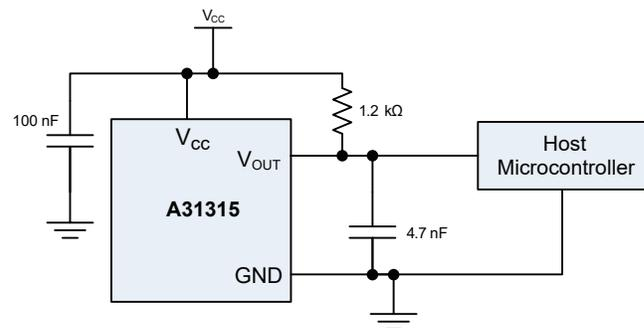

Figure 8: A31315 Typical Application Circuit for Digital Output Modes (SENT/PWM)
Power and Signal Integrity: Proper electrical integration is critical for sensor performance. Allegro position sensors are designed to operate at common supply voltages (V_{CC}), such as regulated 3.3 V and 5 V, or over a wide input range for direct connection to industrial or automotive supplies. To ensure stable operation, this supply must be decoupled using a bypass capacitor placed as close as practicable to the V_{CC} and GND pins to minimize noise. Additional passive components, such as resistor-capacitor (RC) filters on output lines, might also be necessary for signal integrity. The device datasheet is the authoritative source for the complete application circuit, including all component values, as shown for the A31315^[4] in Figure 8.